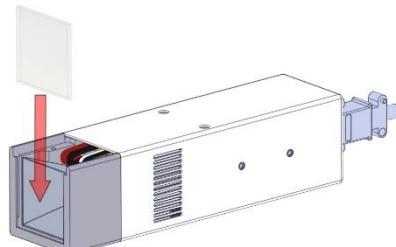

Figure 4
5. Unwrap the new window and carefully clean it with the enclosed alcohol swab. Holding the window by its sides, slide it into the groove on the emitter (Figure 4). Take care not to touch the glass with bare hands, as any residue left on the window can adversely affect the performance of the unit.